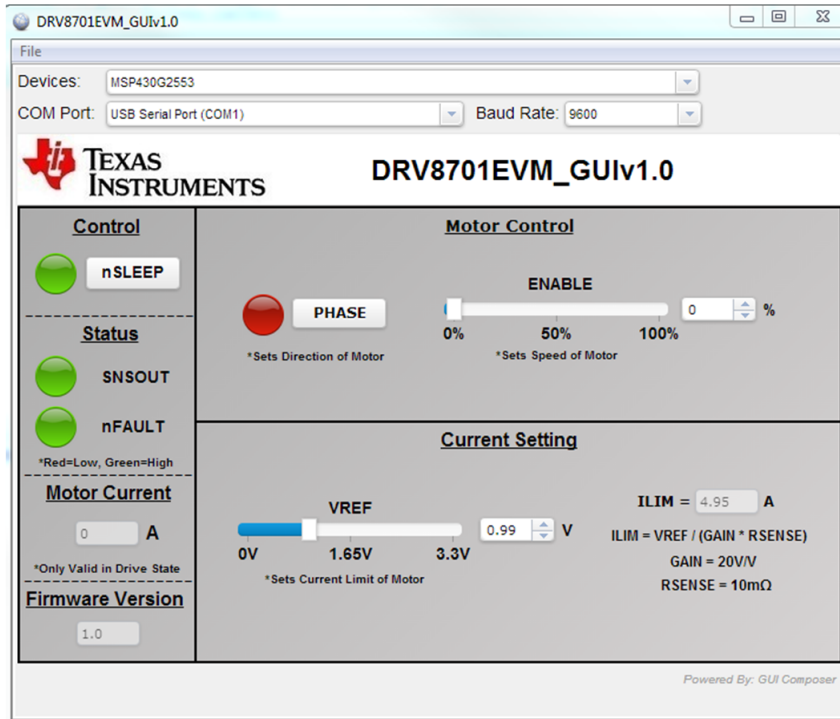

Figure 6. DRV8701EVM GUI Connected
Step 4: After the GUI connects, the screen displayed in Figure 6 appears. Verify that the *Device*, *COM Port Name* (COM Port Number may differ), and *Baud Rate* match what is shown.